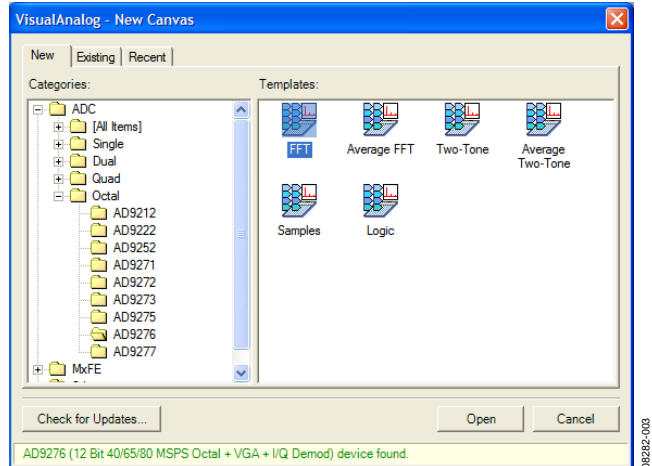

Figure 3. VisualAnalog, New Canvas Dialog Box
1. Open VisualAnalog™ on a PC. AD9276 or AD9277 should be listed in the status bar of the **New Canvas** window. Select the template that corresponds to the type of testing to be performed (see Figure 3).